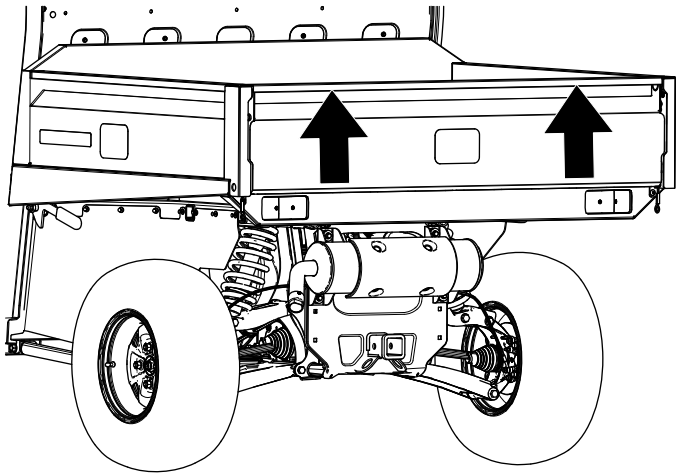

Figure 50
2. Using both hands, raise the tailgate using the ridge near the top of the tailgate (Figure 50).